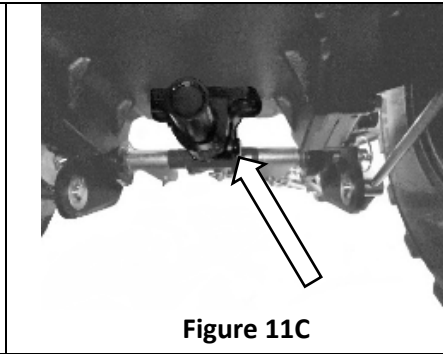

Figure 11C
10. Remove the bolt and cap on the tractors PTO as indicated in figure 11C.